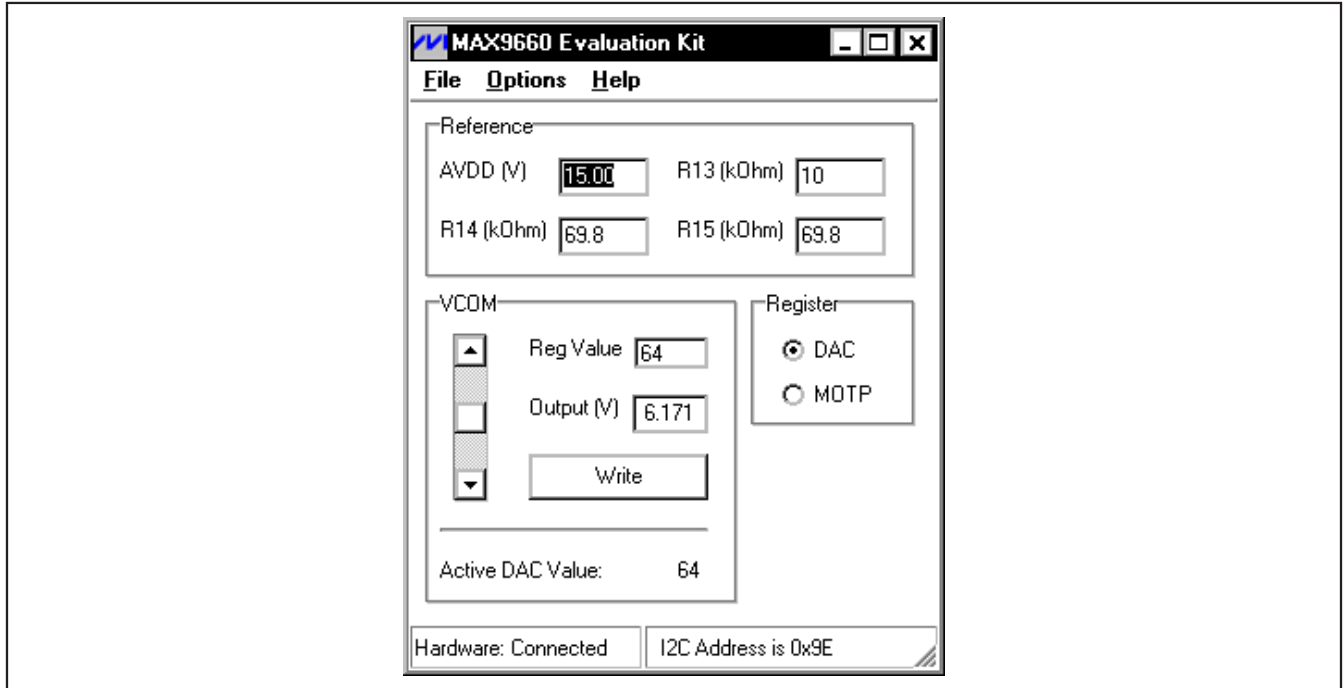

Figure 1. MAX9660 Evaluation Software Main Window
- 13) Start the MAX9660 EV kit software by opening its icon in the **Start | Programs** menu. The EV kit software main window appears, as shown in Figure 1.
- 14) Use the DVM to verify that the output voltage is close to the voltage shown in the **Output (V)** edit box.
The MAX9660 EV kit GUI software provides a user interface (Figure 1) to control the features of the MAX9660 VCOM voltage buffer. To start the EV kit software, double-click the MAX9660 EV kit icon created during installation. The software has a demo mode that is available by selecting **Options | Demo Mode** from the menu bar. When in demo mode, all software communication to the EV kit hardware is disabled and most of the software's GUI is functional. This feature enables a user to evaluate the software without hardware connectivity.